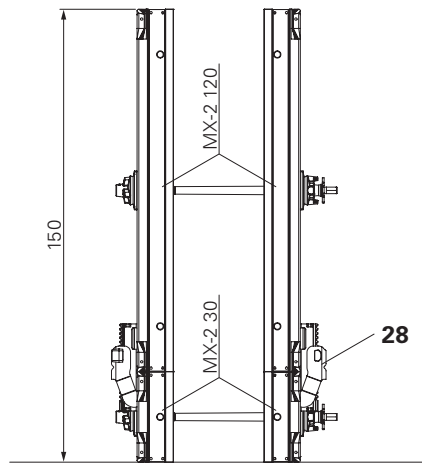

Fig. A16.03
(Fig. A16.03)
- Fit 4x/6x Alignment Coupler BFD (**28**) to Downward Extension Panel MX-2 30 as a panel connection. (Fig. A16.03)